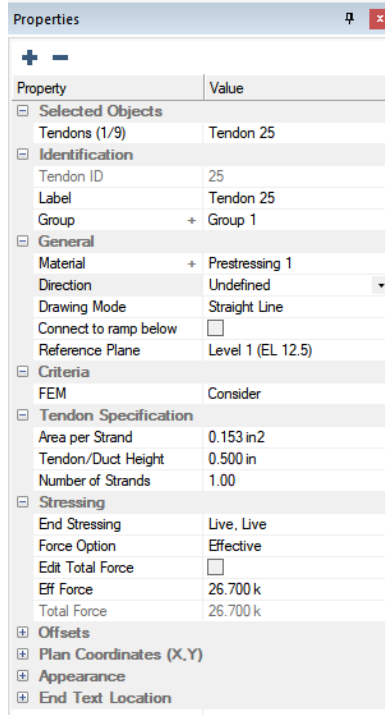

FIGURE 9-57
- Select the tendon we just entered to display the tendon properties in the *Properties Grid*, as shown in **FIGURE 9-57**.